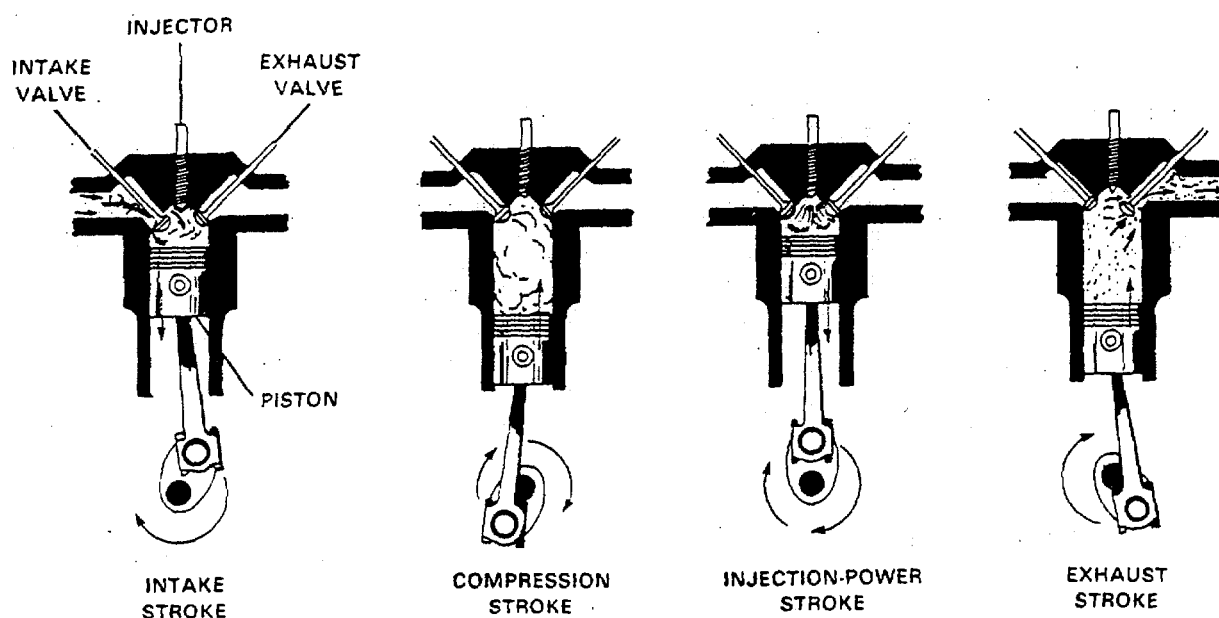

FIGURE 1-2. Four-Stroke Diesel Engine Cycles.
a. Combustion System (Diesel Cycle). Diesel Engines are different from spark-ignited engines in a number of ways. Compression ratios are higher, and the charge taken into combustion chamber during the intake stroke consists of air only, with no fuel mixture. Injectors receive low pressure fuel from the fuel pump and deliver it into individual combustion chambers at the proper time, in equal quantity and in an atomized condition for burning. Ignition of fuel is caused by heat of compressed air in the combustion chamber. The four strokes and order in which they occur are shown in FIGURE 1-2 and described in the following paragraphs.
(1) Intake Stroke. During intake stroke, the piston travels downward; intake valve is open, and exhaust valve is closed. The downward travel of the piston allows air from the turbocharger to enter the cylinder.
(2) Compression Stroke. At the end of the intake stroke, intake valve closes and piston starts upward on compression stroke (exhaust valve remains closed). At the end of compression stroke, air in combustion chamber is compressed into a small space causing temperature of the air to rise to a point high enough for ignition of fuel. During last part of compression stroke and early part of power, stroke, a small metered charge of fuel is injected into combustion chamber. Almost immediately after fuel charge is injected into combustion chamber, fuel is ignited by the hot compressed air.
(3) Power Stroke. During the beginning of the power stroke, the piston is pushed downward by the burning and expanding gases; intake and exhaust valves are closed. As more fuel is added and burns, gases get hotter and expand more to further force piston downward and thus add driving force to crankshaft rotation.